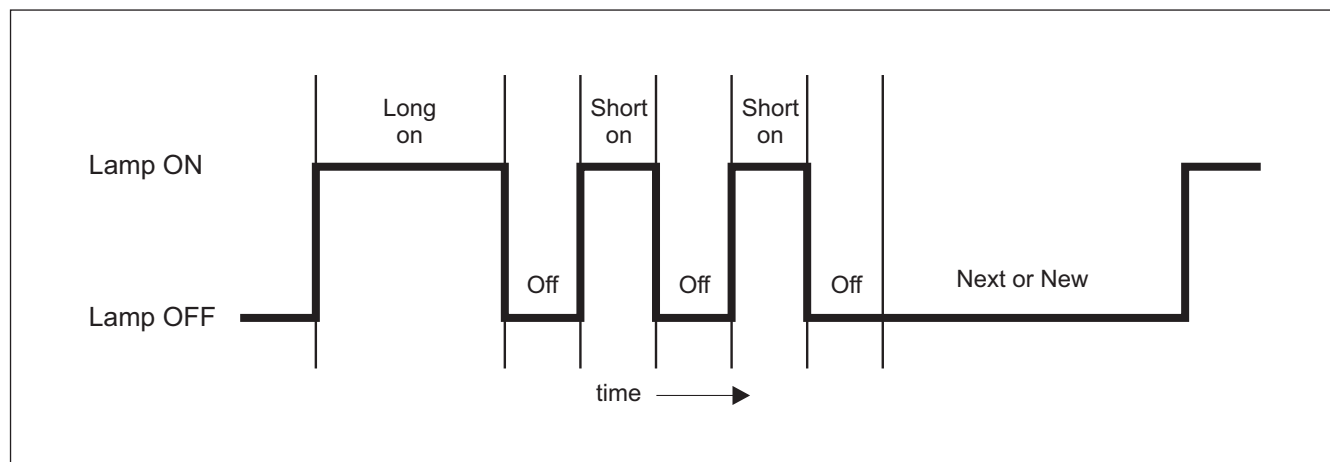

Fig. 7.27
- The malfunction(blinking) code flash on and off pattern. (Fig. 7.27)